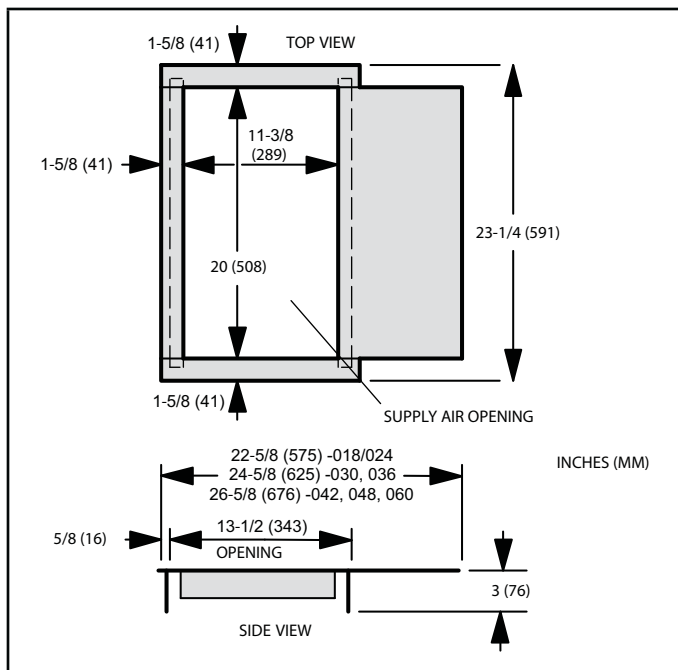

FIGURE 17. Downflow Combustible Base Dimensions
- 11 - Cut an opening appropriately sized for combustible base. Base dimensions are illustrated in figure 17. After opening has been cut, set the additive base into opening. Connect outlet air plenum to the additive base. Set the unit on the additive base so flanges of the unit drop into the base opening and seal against the insulation strips. The unit is now locked in place. Install return air plenum and secure with sheet metal screws.